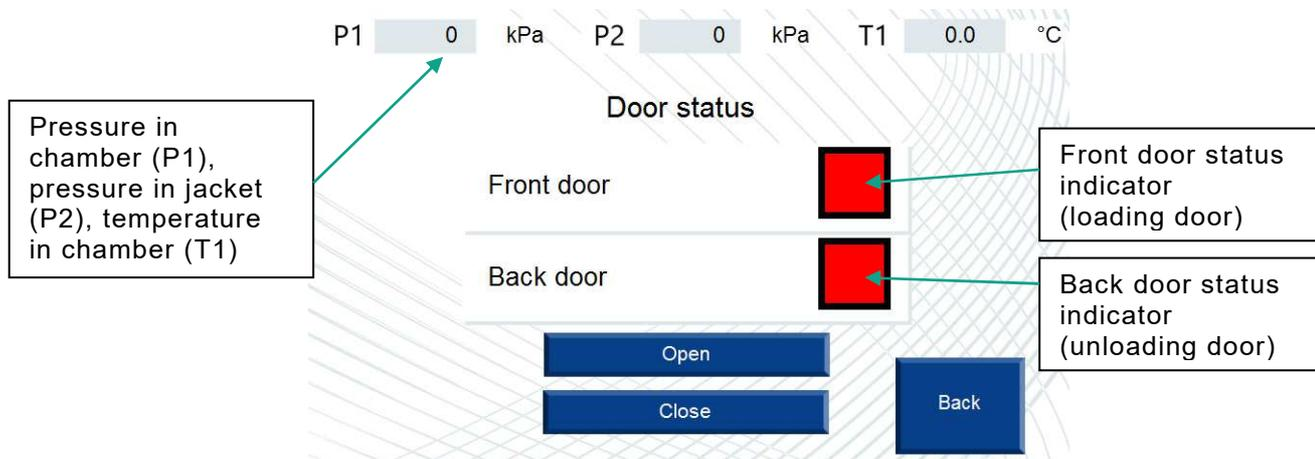

Fig. 11
**Door** – pressing this button navigates to the front door control screen (Fig. 11). This button is not shown during the process. It is displayed only when the sterilizer is in the ready mode.